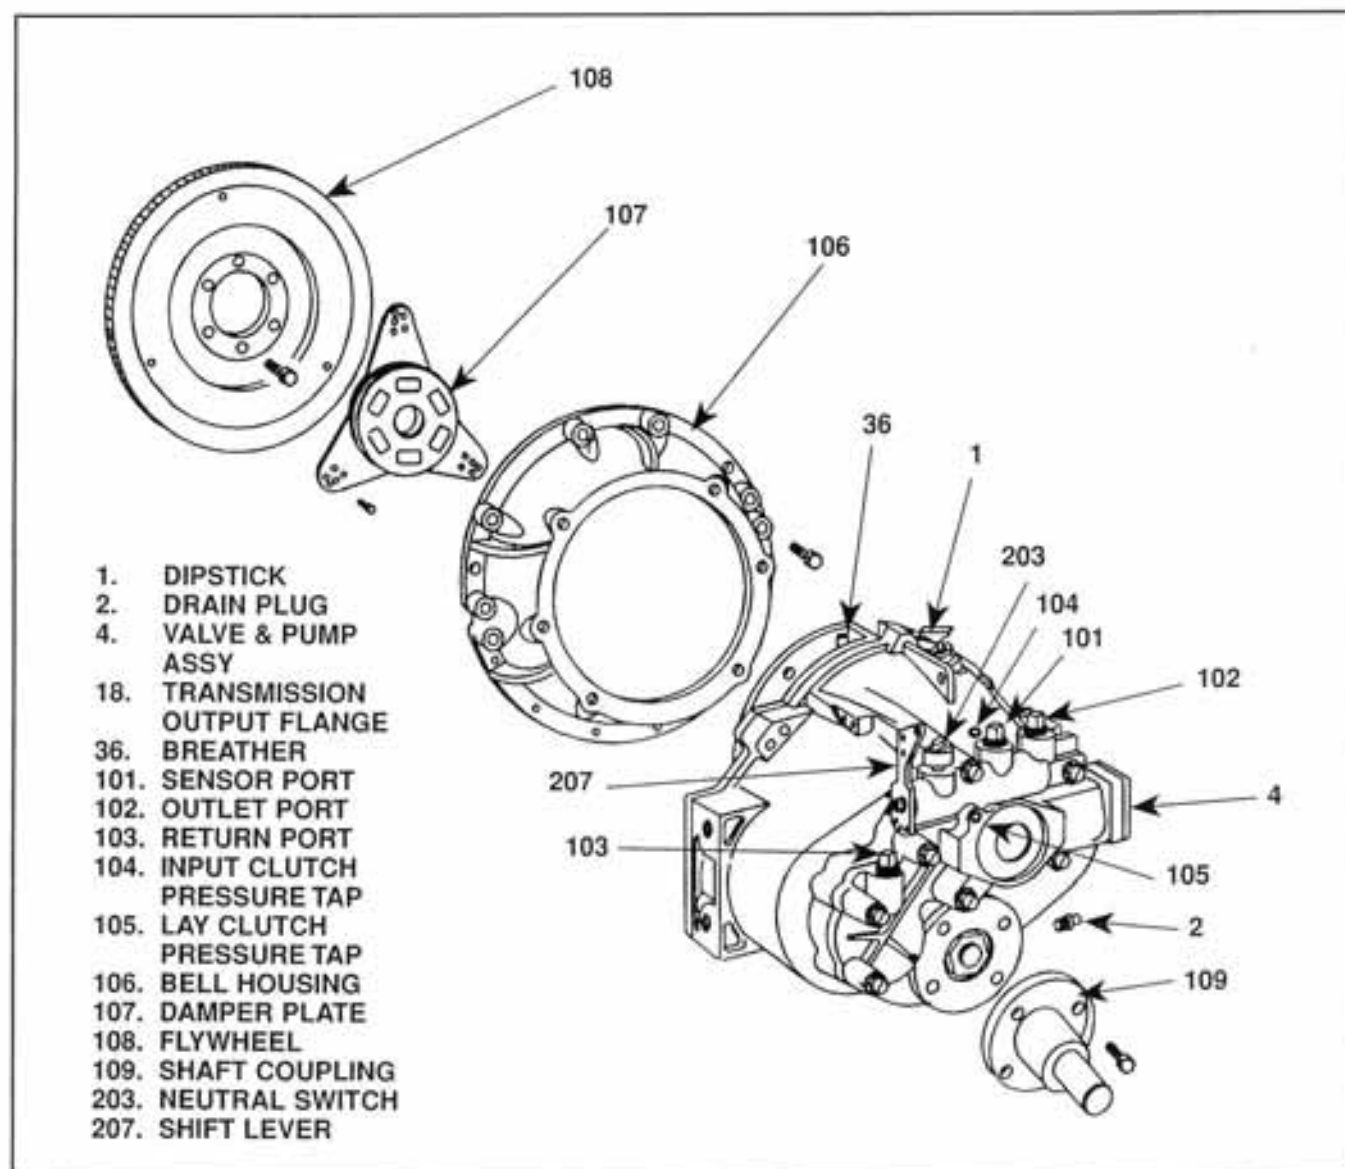

Figure 2-2. Transmission Installation
1. Place a suitable container near the oil (fluid) cooler return port (103) (see figure 2-2).
3. Remove the dipstick (1) as described in paragraph 2-6.
4. Place a suitable container under the transmission and remove the drain plug (2). Drain all fluid from the transmission and install the drain plug. Torque plug to 20-45 lb-ft (27-34 Nm)
2-17. TORSIONAL VIBRATION. The delivery of power from a piston engine is not smooth but rather comes in pulses. The engine flywheel uses inertia to smooth out some but not all pulsation. That remaining pulsation is called torsional vibration. In marine applications a damper plate (107, figure 2-2) is used to absorb the torsional vibration by compressing and relaxing a system of springs. The damper must be selected carefully. If its springs are inadequate for the application, damage to the transmission and damper plate itself will result. Proper damper selection is the responsibility of the boat manufacturer, or whoever matches the engine and transmission to the application—not Borg Warner. Borg Warner is not responsible for torsional vibration or any resulting damage to the transmission or other power train components.
2-23. REMOVAL OF TRANSMISSION. Refer to the OEM manual for specific instructions regarding enclosures, mounts, supports, shift linkage and other components related to the transmission. A suitable hoist or other means for completely supporting the transmission will be required. Proceed as follows (see figures 2-2 and 2-7):